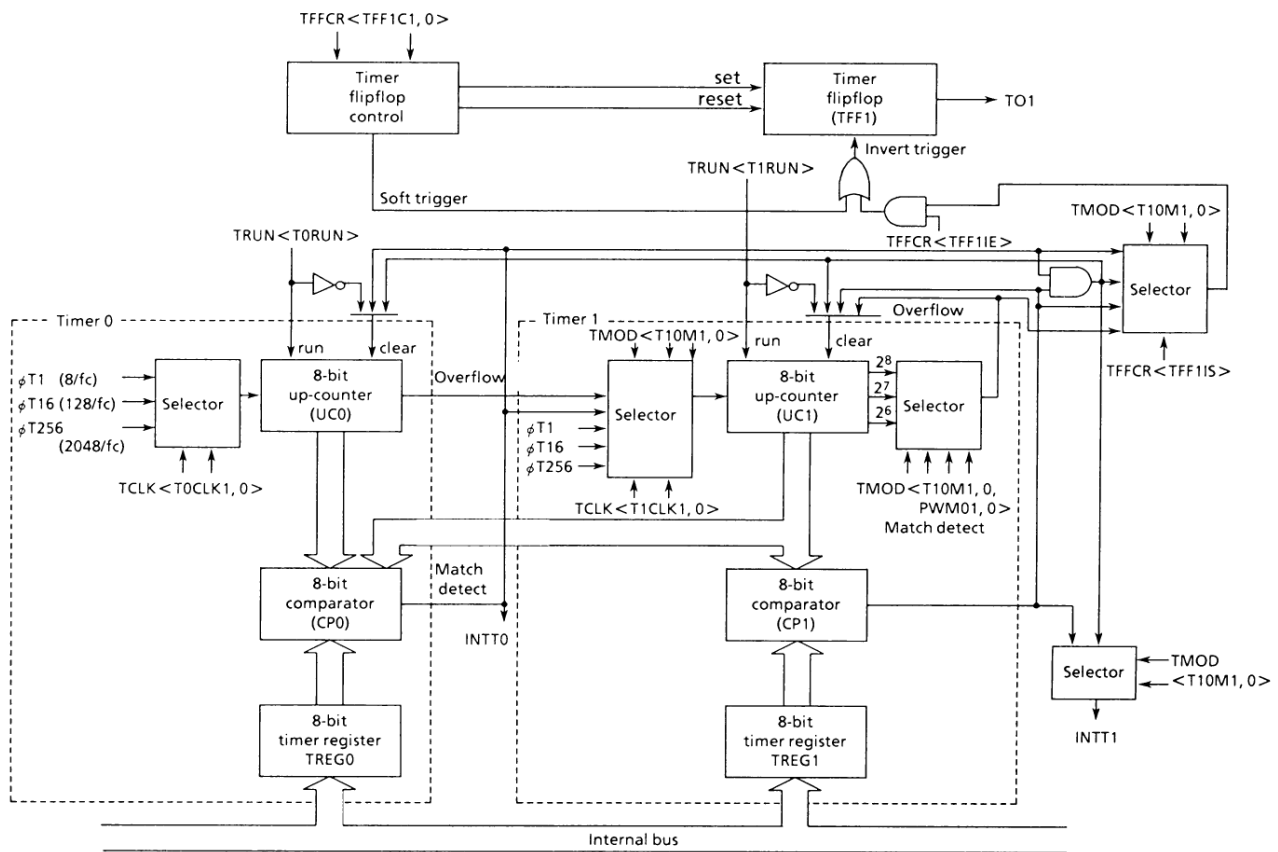

Figure 3.6 (1). 8-bit Timers Block Diagram (Timers 0 and 1)
The internal clocks $\phi T1$, $\phi T16$, and $\phi T256$ used as the input clocks to the interval timers are obtained from the 9-bit prescaler shown in Figure 3.6 (2).